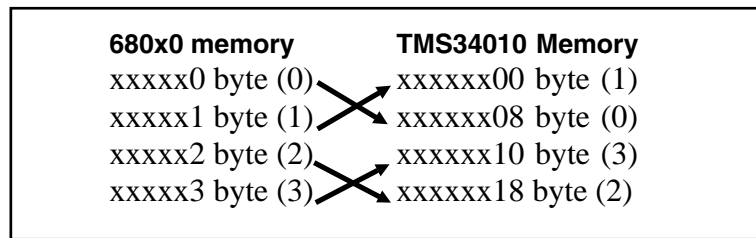

Figure B.3 32 Bit Data Transfers
Data may only be transferred to or from Rastergraf, Inc. TMS34010 based graphics boards 16 bits at a time, and only with one of the two byte sets; byte(0), byte(1) or byte(2), byte(3). Figure B.3 shows how a long (32 bits) would be transferred from 680x0 memory to long aligned TMS34010 memory (the start address in TMS34010 memory could be any bit value, but AFGIS firmware requires that the AFGIS opcodes be loaded on word boundaries).